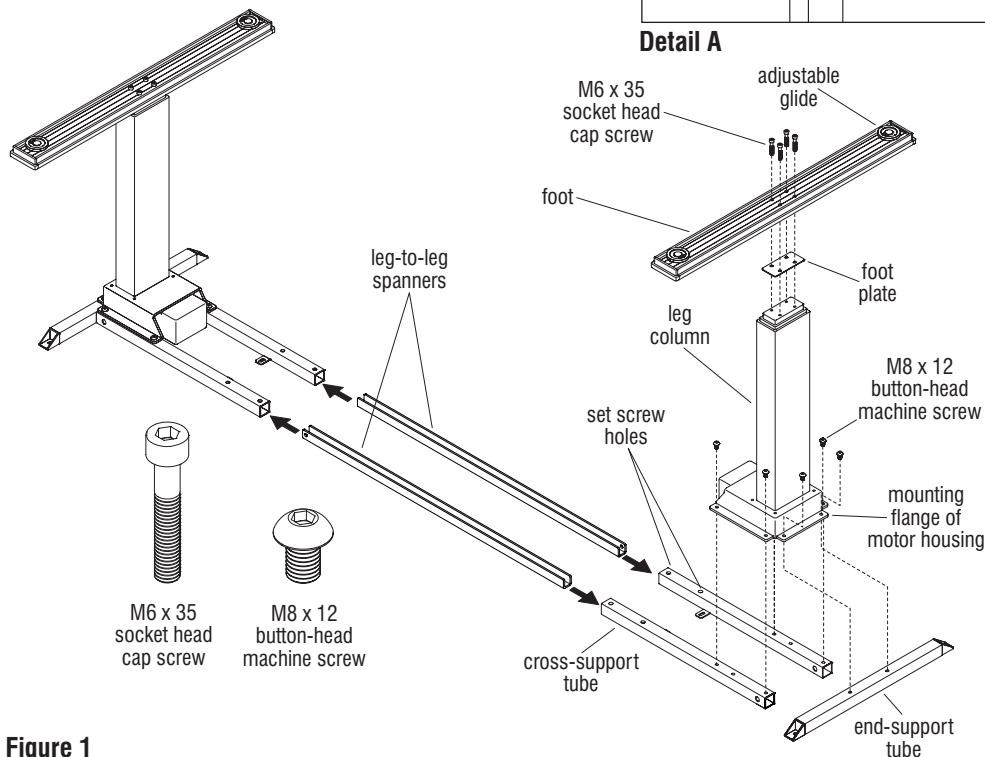

Figure 1
1. Carefully remove contents from packaging, set out on a soft, protective surface and refer to Figure 1 to identify the parts required for assembly.
2. Position two cross-support tubes (with mounting tabs down and facing inward), and one end-support tube out as illustrated. Place a leg column assembly over the three tubes, aligning all six mounting holes on the flange of the column with the mounting holes on the three tubes. Using six M8 x 12 button head machine screws torqued to 9.5 ft/lb, secure the flange of the leg column to the three base tubes (Figure 1).
3. Mount the foot to the leg column by first positioning a plastic foot plate over the mounting location on the leg column. The plastic foot plate should be oriented so the raised flange faces down on the leg to nest the foot plate in place. Position a foot over the flat face of the foot plate, aligning holes in underside of the foot with the mounting holes in the column, and secure foot to column with four M6 x 35 socket head cap screws. Torque to 7.5 ft/lb (Figure 1).
5. Repeat steps 2 & 3 for second leg assembly and step 4 if casters are required (Figure 1).
6. Position two leg-to-leg spanners with channel opening face up, then slide both spanners into the open ends of each base tube of both base assemblies. Slide bases together, but do not secure with set screws at this time (Figure 1).